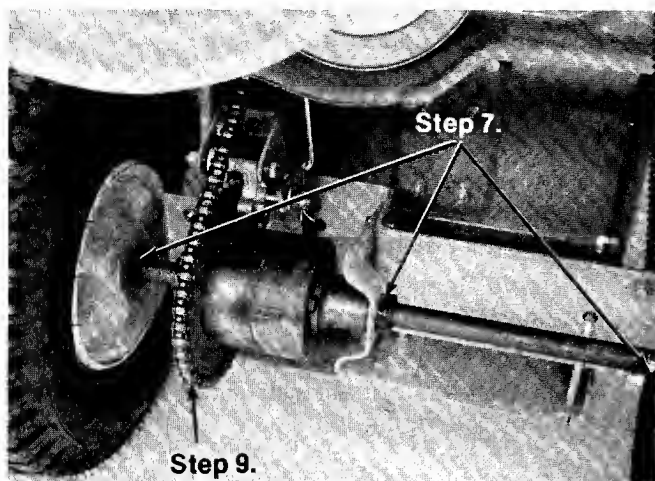

FIGURE 23.
4. Differential—It is lubricated at the factory with 2 ounces of high temperature grease (450°F.). The grease should only be checked or replaced if the differential is disassembled for repair. See figure 23.
6. Steering Column Bearings (2)—Oil once a season with SAE 30 oil.
7. Rear Axle Bearings (3)—They require no lubrication. See figure 23.
8. Steering Shaft Bearings (2)—They require no lubrication.
9. Chain—Remove and clean with kerosene. Lubricate with an oil soaked rag. See figure 23.